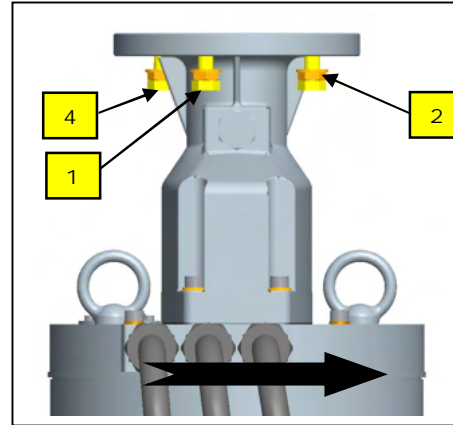

Fig. 29
- Move the vertical axis to the right (black arrow – Fig.29) and unscrew the screws 1-2-3 and fix the M12 screw until the end of the working range (Fig.29).